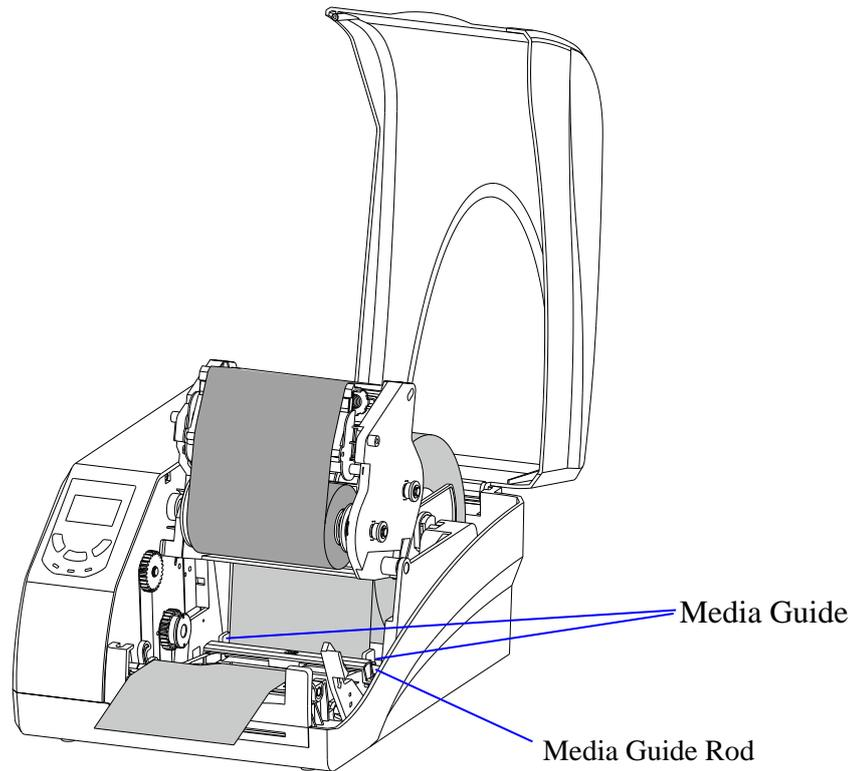

Figure 2-12 Load the Media
4. Thread the media under the Media Guide Rod and Transmissive Media Sensor, as shown in Figure 2-12.